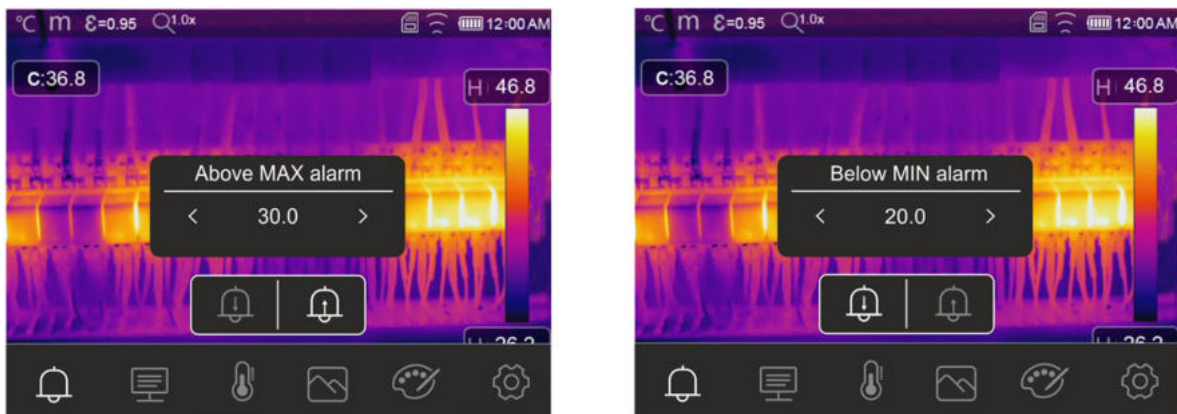

Fig. 44: Setting of limit thresholds on alarms
3. Touch the icon “🔔” to define the **high** threshold value associated with the alarm. The screen in Fig. 44 – left side appears on the display.
5. Touch the icon “🔔” to define the **low** threshold value associated with the alarm. The screen in Fig. 44 – right side appears on the display.